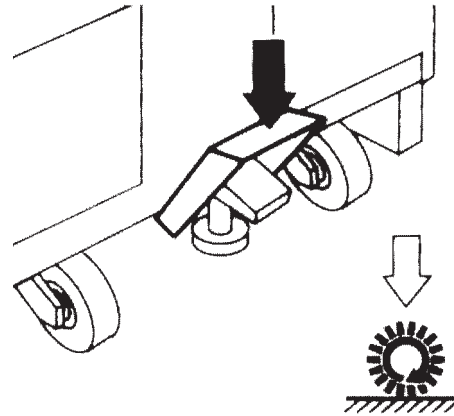

Figure 3
4. Turn the main switch (2) to "I", to turn on the brush motor.
5. Turn the switch (3) to "I", to turn on the vacuum system motor.
6. Turn the pump switch (4) to "I", to turn on the solution flow to the brush.
7. Press the pedal (Fig. 3) to lower the brush and squeegees on the floor.
8. While keeping the hands on the handlebar, start the machine by pressing the brush switches (6) and then start scrubbing/drying the floor.
9. With the switch (5) adjust the solution flow according to the type of cleaning to be performed.
11. In case of tough dirt, wash the floor thoroughly by turning the vacuum system switch (3) to "0", then wash the floor again and then collect the liquids by turning the vacuum system switch (3) to ON.